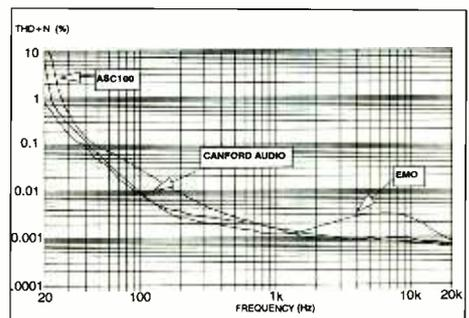

Fig. 3: THD + Noise, level + 10 dBu, all outputs loaded
**THD + N:** here again, the units are similar, with EMO unit coming off marginally worse when driven at +10 dBu, well above normal limits. Fig. 3 shows the THD+N of all units when operating at this high level.